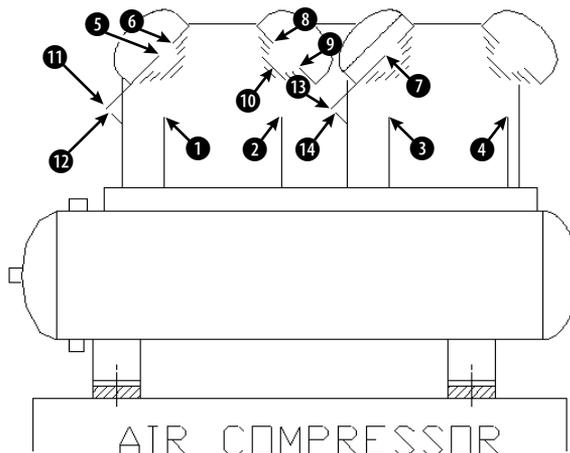

Figure 7-1: The air compressor without its circles.
3.  Choose Circle from the Draw toolbar. Right-click and choose 2P from the shortcut menu. At the Specify first end point of circle's diameter: prompt, pick the endpoint at **1** in Figure 7-1. At the Specify second end point of circle's diameter: prompt, pick the endpoint at **2**.
4. Repeat the CIRCLE command by right-clicking and choosing Repeat Circle. Right-click and choose 2P from the shortcut menu. Pick the endpoints at **3** and **4** in Figure 7-1.
7. Repeat the CIRCLE command by right-clicking and choosing Repeat Circle. At the Specify center point for circle or [3P/2P/Ttr (tan tan radius)]: prompt, right-click and choose 3P. At the Specify first point on circle: prompt, pick the endpoint at 8 in Figure 7-1. At the Specify second point on circle: prompt, pick the endpoint at 9. At the Specify third point on circle: prompt, choose a midpoint object snap and pick the midpoint at 10.
12. Repeat Step 11, choosing the endpoint at 13 for the center of the circle and the endpoint at 14 for its radius, as shown in Figure 7-1.